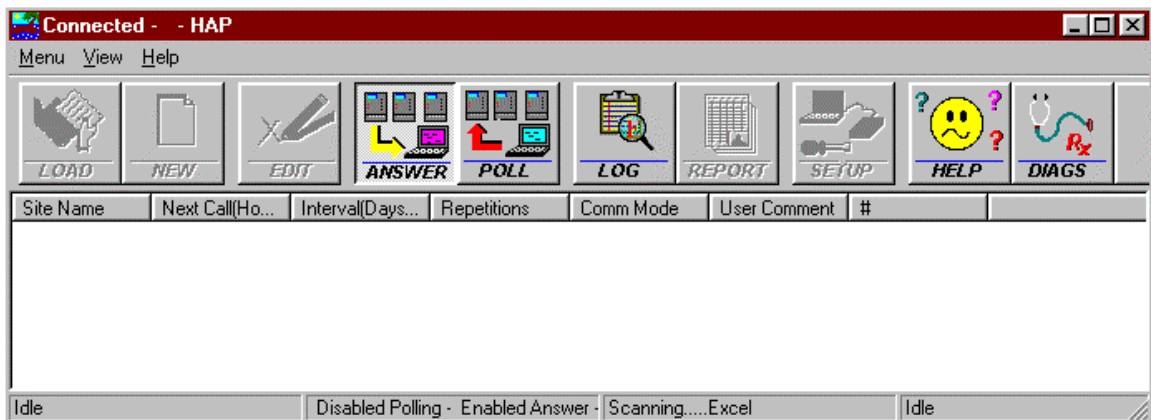

Figure 5.3.3a HAP processing AutoAnswer, Example 5.3
2) Once the room warms to 80 degrees, HAP starts processing the Logger call. Figure 5.3.3a below illustrates HAP processing: